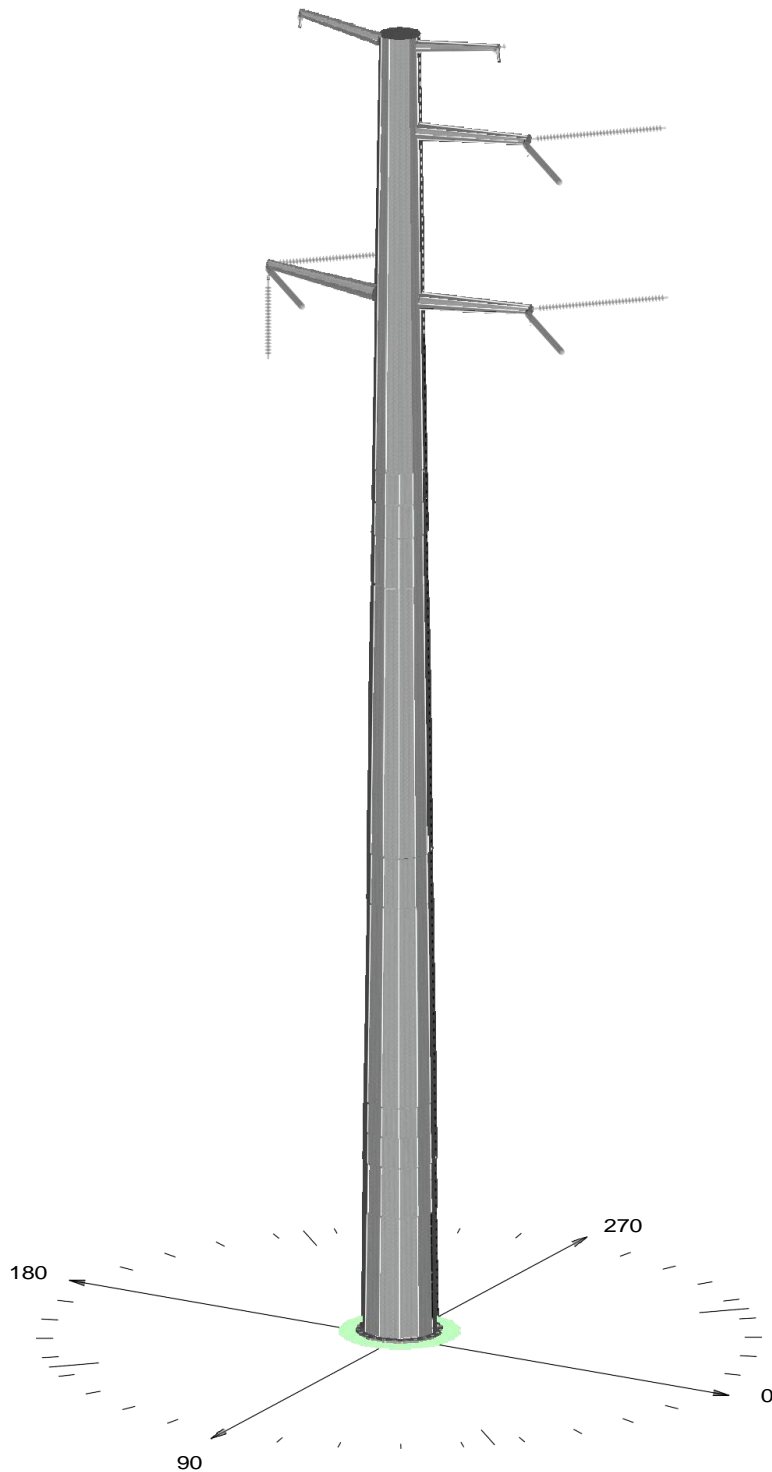

FIGURE G-13
- Figure G-13: Single-Circuit 230 kV Single-Pole, Dead-End, Vertical Configuration with Strain Insulators